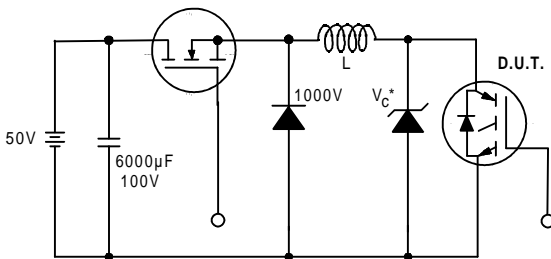

Figure 19. Clamped Inductive Load Test Circuit
- ② $V_{CC}=80\% (V_{CES})$, $V_{GE}=20V$, $L=10\mu H$, $R_G = 23\Omega$ (figure 19)
- ③ Pulse width $\leq 80\mu s$; duty factor $\leq 0.1\%$.
- ④ Pulse width $5.0\mu s$, single shot.